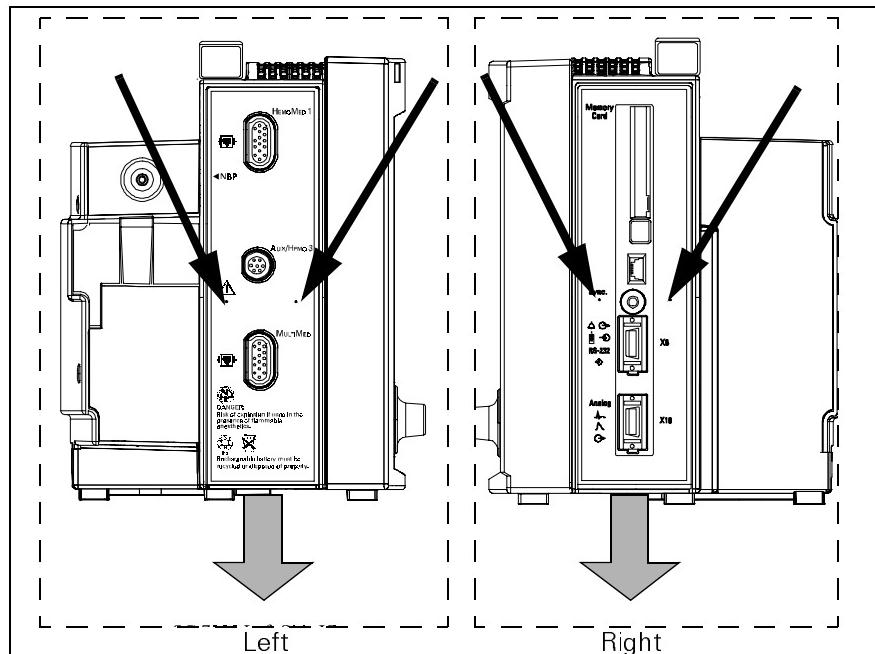

Figure 3-5 Removing Left and Right Side Panels (SC 7000 left side panel shown in illustration)
- With PCMCIA card ejector shaft cover removed, press firmly on dots below each side of sync output connector (see narrow arrows in Figure 3-5), to release latch.
- While pressing on dots, slide panel downward (see broad arrows in Figure 3-5) to release locking tabs, and then lift cover off of monitor.
- 2) Press firmly on dots just below each side of IBP connector port shown in Figure 3-5 (SC 7000 side panel used in illustration), to release latch.